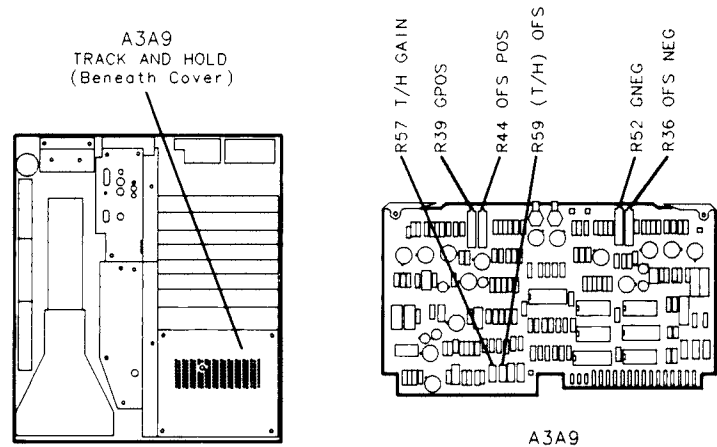

Figure 3-103. Location of Track and Hold Adjustments
9. Adjust A3A9R59 (T/H) OFS until MARKER Δ level indication as indicated by CRT annotation flickers back and forth between .00 and .10 dB. See Figure 3-103 for location of adjustment.